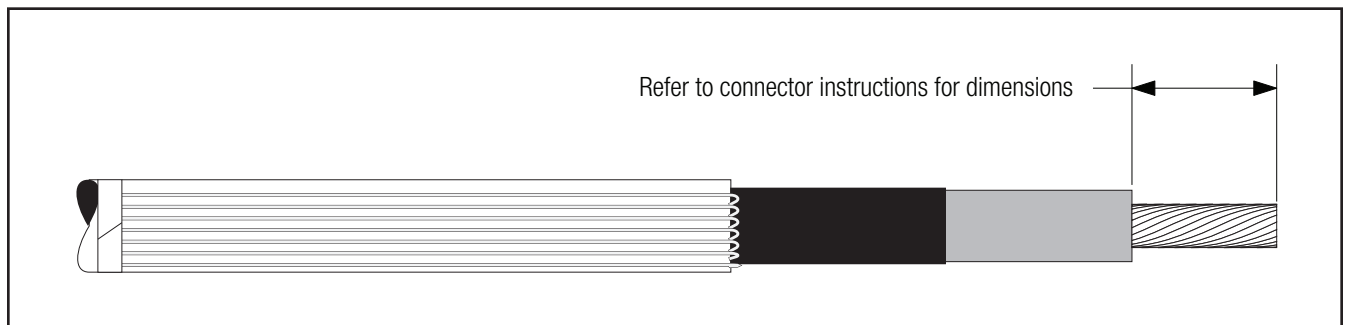

Figure 8
3.1 If using a 3M™ Shearbolt Connector QCI 350-750, refer to the instructions included with the connector for insulation cut-back dimension. Insulation removal length shall not exceed 3 3/4" (95 mm) from conductor end (*Figure 8*).